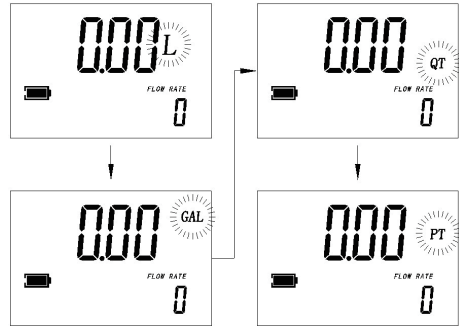

Fig. 4
• Measurement unit change (See Fig. 4)